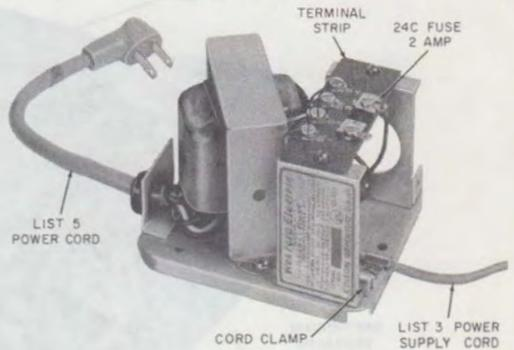

Fig. 4—Power Supply (Cover Removed)
**3.09** Power cord shall plug into a 115-volt ac receptacle not under control of a wall switch. The low voltage power supply consists of two voltages: 19.5 and 26.5 volts ac. *Rapidial* is protected by a 24C, 2-ampere fuse located on terminal strip in power supply (Fig. 4).
- 24C, 2-ampere fuse located on terminal strip in power supply (Fig. 4).